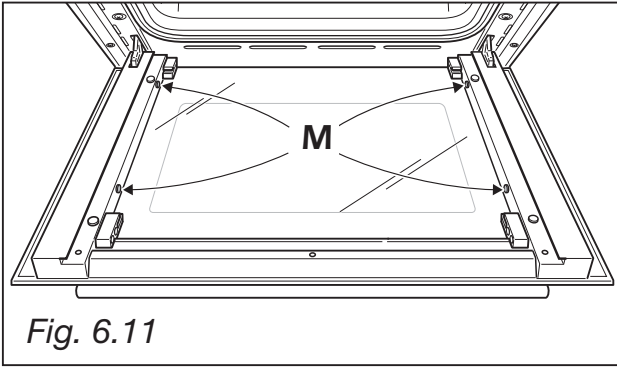

Fig. 6.11
- Check that the four rubber pads are in place (M in fig. 6.11).